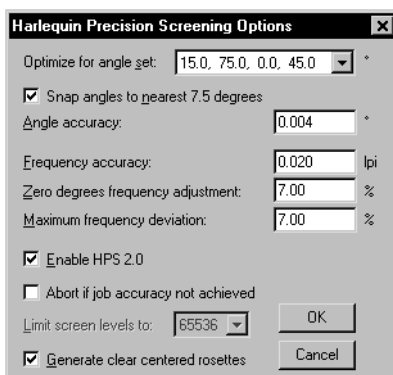

Figure 6.6 Harlequin Precision Screening Options dialog box
- When using HPS, the RIP produces the number of gray levels required to attain the specified accuracy of screening, as set in the HPS Options dialog box, shown in Figure 6.6, page 184.